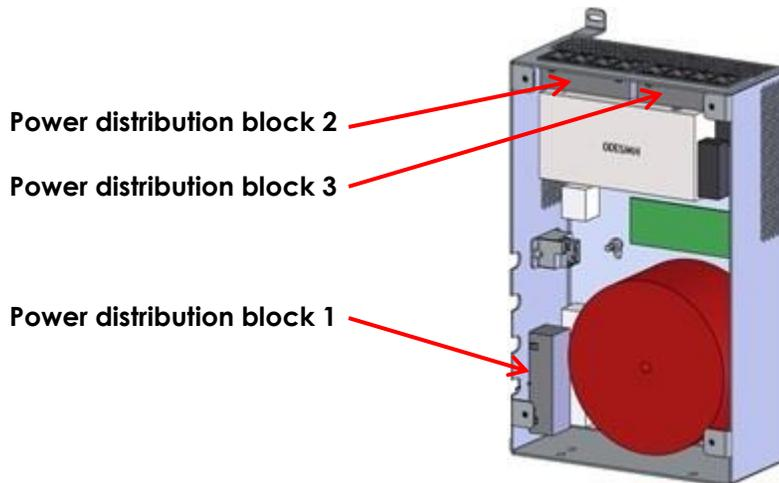

Figure 111: Power Box showing Power Distribution Blocks (internal view pictured for clarity)
5. Disconnect all the cables connected to power distribution block 1, power distribution block 2 and power distribution block 3 (refer to Figure 111).